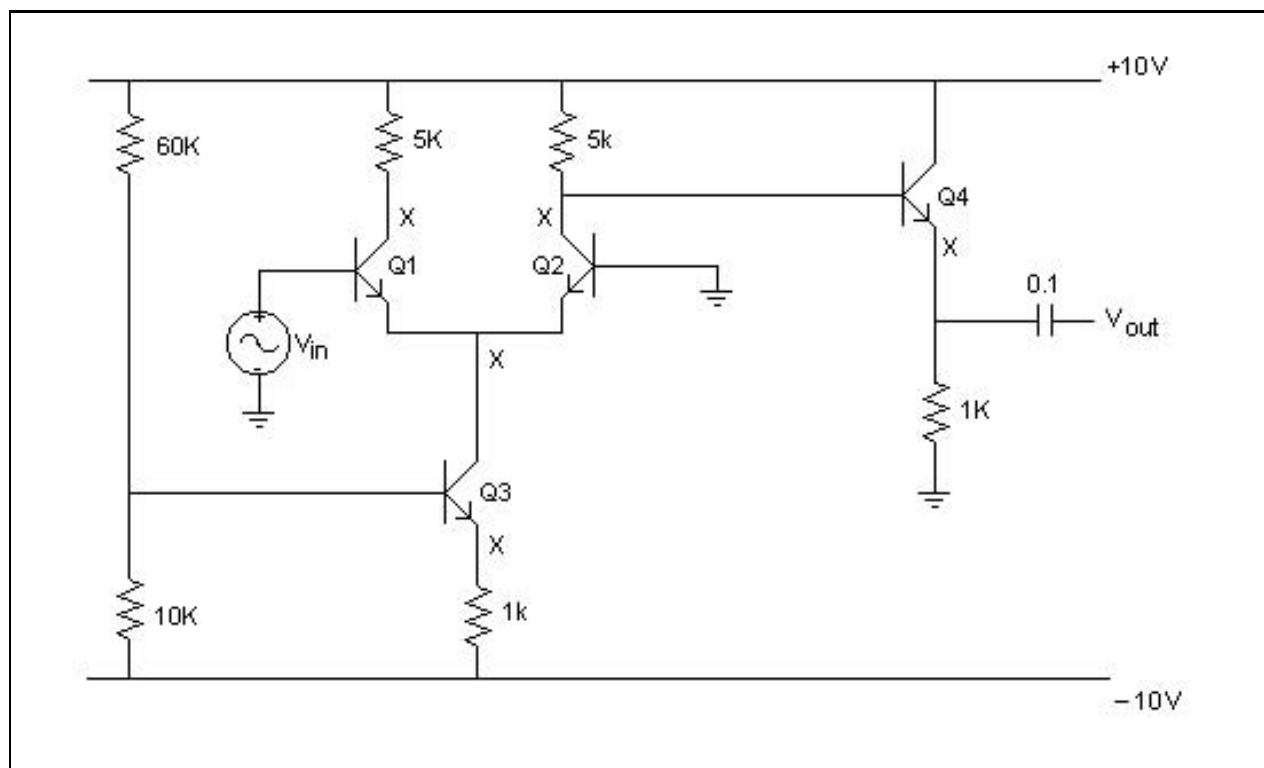

Figure 5.7: Basic Op-Amp
1. Set up the circuit in Fig.5.7.
2. For the circuit in Fig.5.7, calculate the DC voltages at the points labeled X, and the open loop small signal voltage gain A_{dm} . Also calculate R_{in} and R_o .
3. For the circuit in Fig.5.7, what feedback resistors would you add for a closed loop gain of 6. (Remember, we want to be able to neglect loading effects from the feedback loop. This limits the size of resistors you can use.)